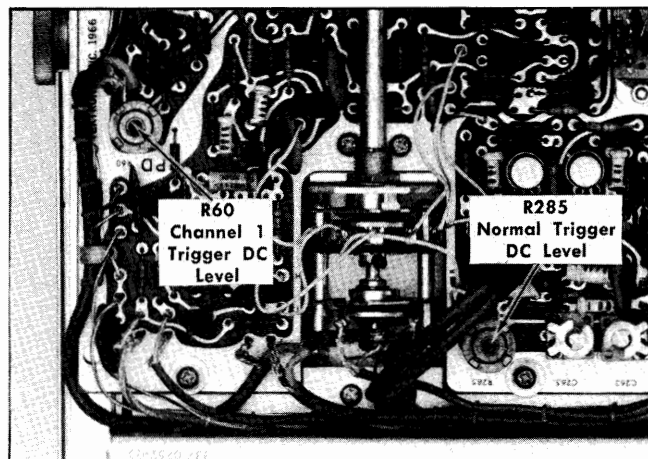

Fig. 5-21. Location of Channel 1 Trigger and Normal Trigger DC level (Vertical Preamp circuit board).
- j. CHECK—CRT display for 0.1-division deflection or less (attenuator isolation 10,000:1 or better; see Fig. 5-21).
d. ADJUST—Channel 1 Trigger DC Level Adjustments, R60 (see Fig. 5-21), for a stable display.
g. ADJUST—Normal Trigger DC Level adjustment, R285 (see Fig. 5-21), for a stable display.